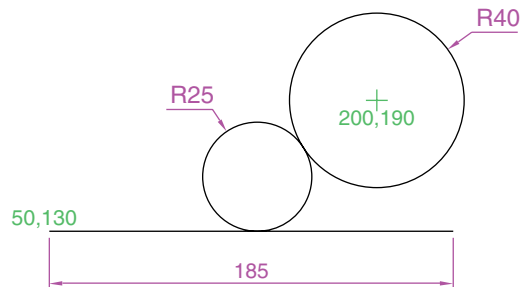

Fig. 2.33 Exercise 5
- Fig. 2.33. In an **acadiso.dwt** screen and using the **Circle** and **Line** tools construct the line and the circle of radius 40. Then, using the **Ttr** prompt, add the circle of radius 25.